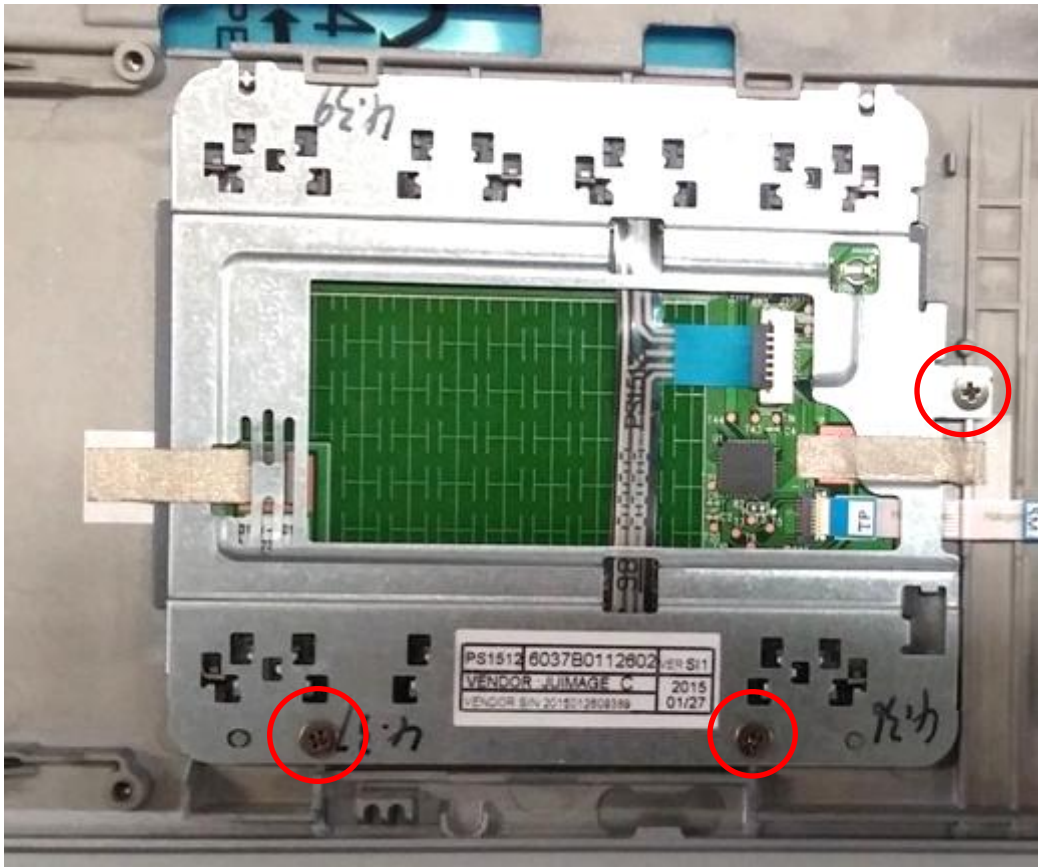

Fig.1
1. Loosen screw*3, then disassemble touch pad from Top Case.(Fig.1)